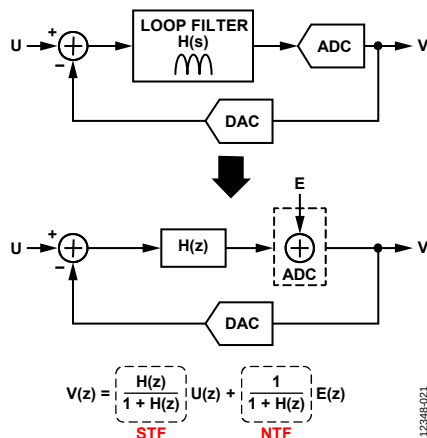

Figure 69. Simplified Model of a  $\Sigma$ - $\Delta$  ADC Showing Origins of STF and NTF
The frequency domain response of a  $\Sigma$ - $\Delta$  ADC is defined by its signal and noise transfer functions (STF and NTF). Figure 69 shows a simplified feedback model of a  $\Sigma$ - $\Delta$  modulator with the ADC quantization error modeled as an additive noise source (E) after the loop filter (H). The STF is the frequency response of the output signal (V) relative to a swept single tone at its input (U) while the NTF is the frequency response of the ADC quantization noise (that is, V/E) that undergoes noise shaping due to of the loop filter of the ADC. Note that the ADC and DACs within the feedback loop operate at a much higher clock rate than a traditional open-loop ADC in which only the Nyquist criterion must be satisfied ( $F_{ADC} = 2 \times BW$ ).